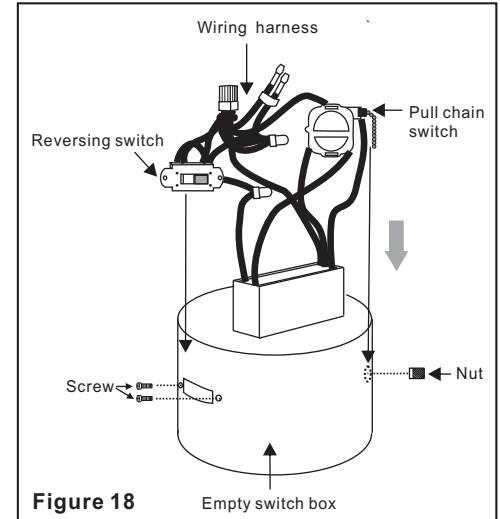

Figure 18
2. Install the wire harness into the empty switch box by placing the pull chain switch and reversing switch into the holes located in the empty switch box (see illustration), secure the pull chain switch and reversing switch with original nut and screws. (Fig. 18)